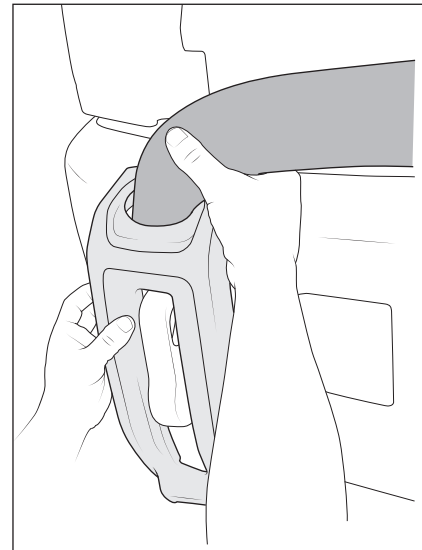

Figure 34
2. Slide the second bezel onto the end of the tube, then position together in place on the bumper (fig 34).